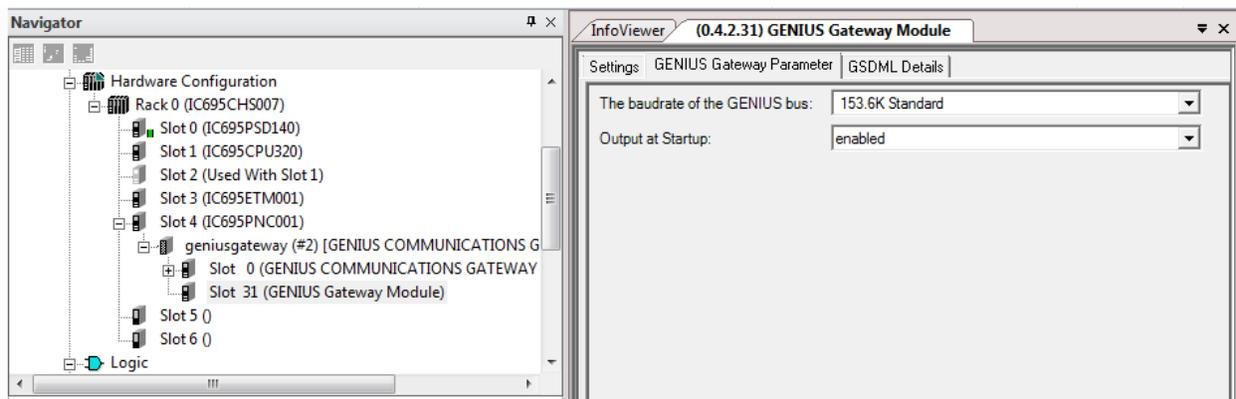

Figure 15: Genius Gateway Parameters
8. Within the **geniusgateway** branch, two daughter devices are displayed by default: the GCG (shown in Figure 15 at slot 0 with its connected PNC) and the Gateway module itself at slot 31. You may drag the gateway to slot 30, if desired.
9. If desired, change the GCG001 configuration parameters for *Genius Bus Baud Rate* and *Output at Startup* (Figure 15). Select the GENIUS Gateway Module in slot 31 (or slot 30) and double-click it. You can now use the pull-down menus to select the appropriate *Baud Rate* and *Output at Startup* value. When *Output at Startup* is set to *Disabled*, no output data is sent to the Genius devices when the PLC transitions from STOP to RUN. In this case, the *Enable/Disable Outputs* COMMREQ must be used to enable outputs on the Genius bus.